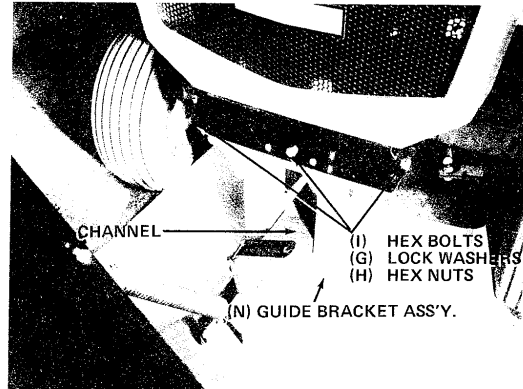

FIGURE 14
12. Assemble the guide mounting bracket assembly (N) to front of lawn tractor, using three hex bolts (I), lock washers (G) and hex nuts (H). See figure 6, and figure 14.